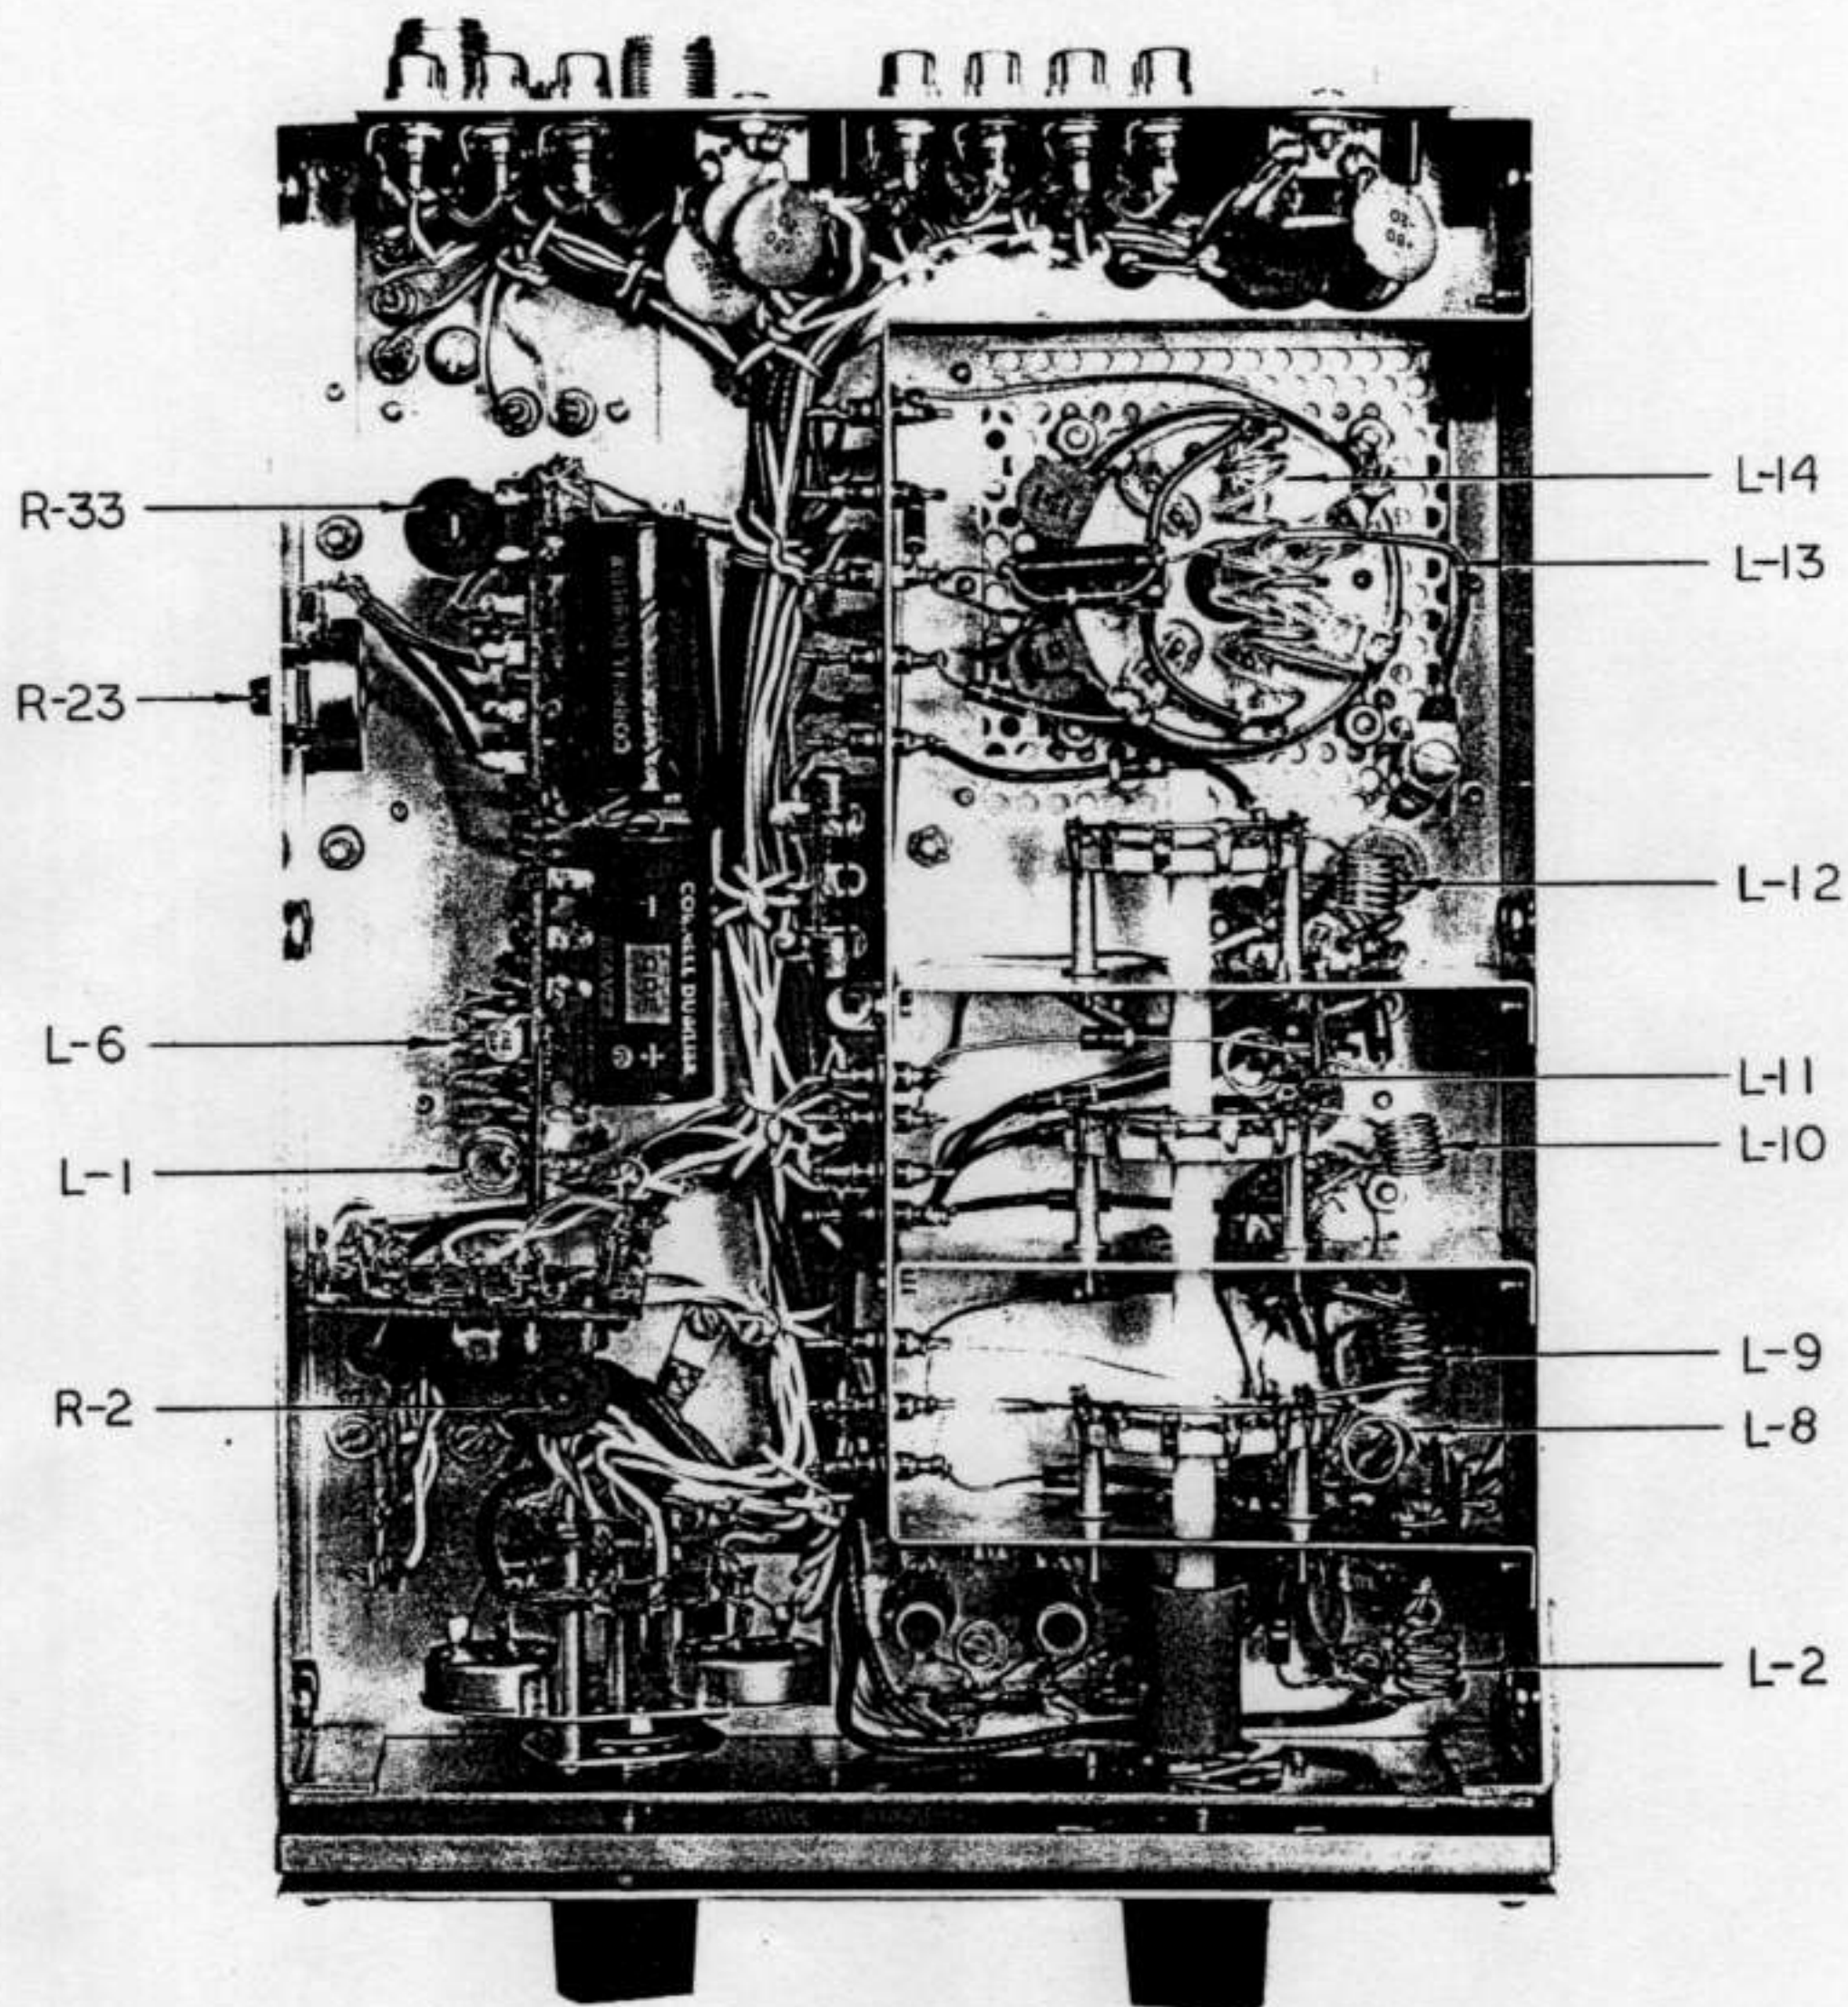

Fig. 14
1. If the TC-2 is not used on AM with a T-4X, adjust the drive level control for maximum output (full clockwise). See Fig. 14